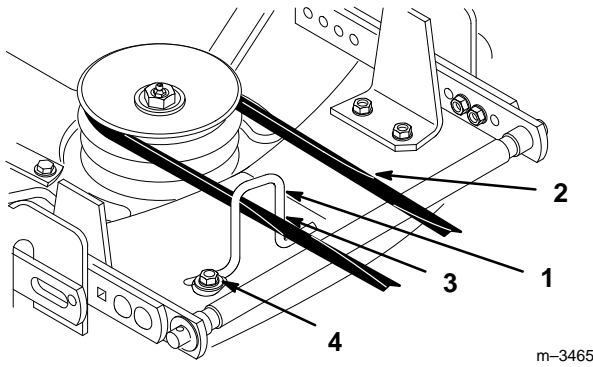

Figure 12
8. Loosen the belt guide bolt (Fig. 12).
9. Adjust the belt guide so that it just touches the belt on the inside arm of the guide (toward the center of the deck) (Fig. 12).